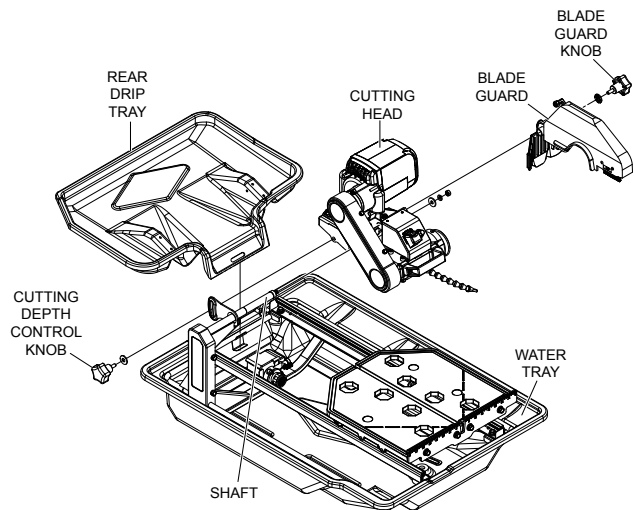

Figure 4. Saw Assembly
4. Slide cutting head onto the post. Secure cutting head to the shaft using provided flat washer, lock washer and nut. Attach cutting depth control knob and washer to the cutting head through the slot located underneath the belt guard. See Figure 4.